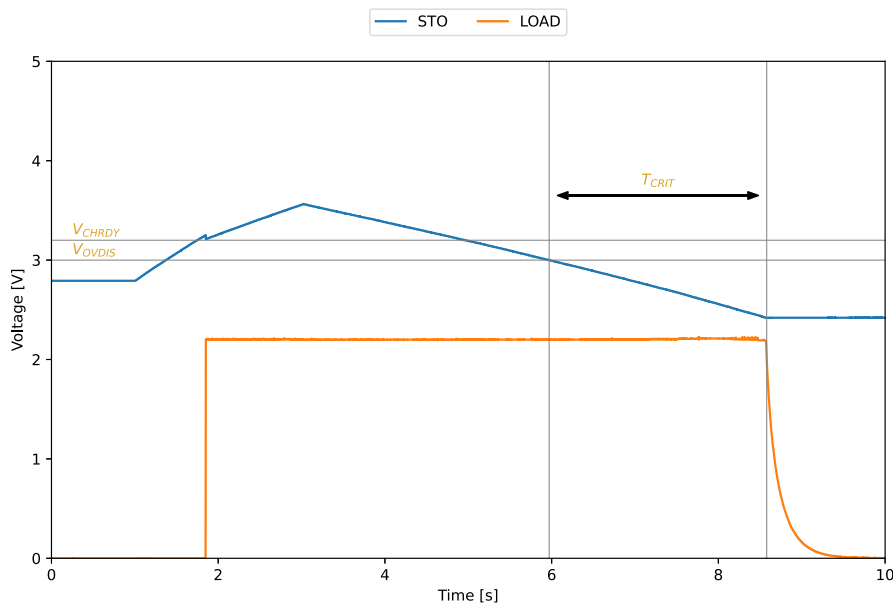

Figure 5: AEM10920 LOAD output behavior
- Disconnect the power supply from **SRC** (done at about 3 s on Figure 5).
NOTE: in a real application, the storage element would be a battery or a supercapacitor, with much higher stored energy, so that **V_{STO}** would not drop as low as on Figure 5 during **T_{CRIT}**.